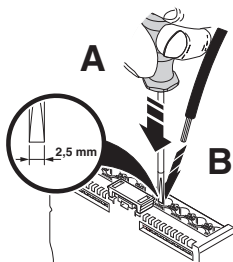

Figure 7-4 Connecting a cable using tools
- Open the spring by pressing the spring lever with the screwdriver (Figure 7-4, A). Use, for example, a bladed screwdriver with a blade width of 2.5 mm. Phoenix Contact recommends the SZS 0,4x2,5 screwdriver (see Section “Ordering data” on page 39).
- Insert the cable into the terminal point (Figure 7-4, B).